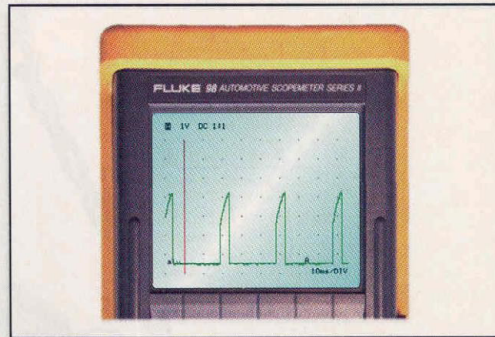
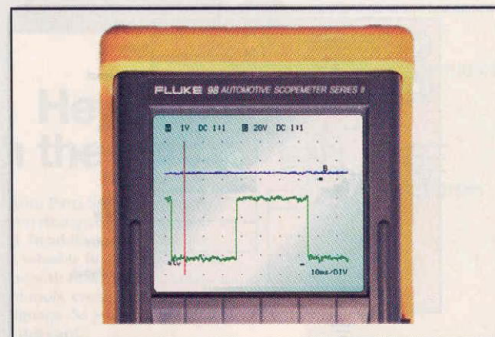
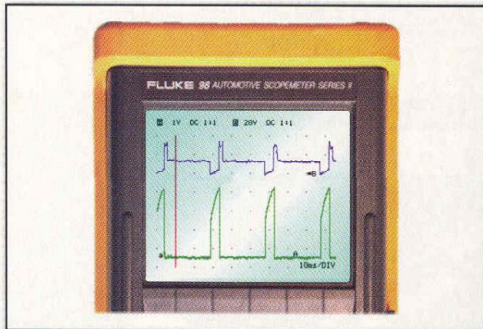
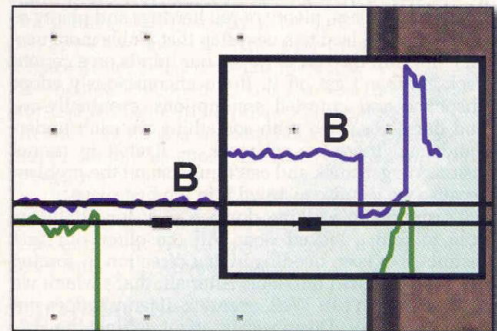

Figure 1: A mystery waveform — does this look like a distributor pulse generator signal?
Figure 2: Channel A is the same distributor output as the engine died. Channel B is attached to the primary negative terminal.
Figure 4: Upward ramping distributor output signal (Channel A) with ignition primary signal (Channel B).
Figure 7: Zoomed-in view of Figure 4.
- The only signal that looked like a pulse generator signal, the one he spoke of on the phone, appears in **Figure 1**.
- The **Figure 1** signal he found changed pattern to the one in **Figure 2** just as the engine lost fuel or spark and died. The B-trace in **Figure 2** is the ignition primary negative terminal.
Our caller began with this diagram and the assumption the distributor had at least one and probably two magnetic pulse generators. The waveform in **Figure 1** looked more like a pulse generator waveform on the scope than anything the other terminals displayed. Aggravating the situation, though, the scope's voltage and time settings make the pulses look narrow and tall. If you combine this with normal diagnostic expectations, the press of time and many other normal shopwork factors, it is easy to see how confusion sets in. Nonetheless, the signal decay pattern was hardly anything we'd expect. Can we solve the engine-dying problem with nothing more than the obviously inadequate technical information the mechanic had on hand, the patterns he saw on his scope and our background knowledge of the electronics probably involved?
Well, suppose this signal is a pulse generator signal. When the car died the pattern turned into what we see in **Figure 2**. Now that is clearly a digital signal. What's going on?
Let's re-start by examining our first assumption — there had to be a pulse generator signal. Put your finger over the top ramping portion of the signal (Figure 1). What do you see? A repetitive digital signal, an on-off, not a jagged sawtooth pattern. Now remove your finger. Add what you now see to what you just saw. It's a repetitive digital signal with an upward ramping top (RDS w/URT).
Now, what do we see in Figure 2, watching the same sensor, the same terminal, just as the engine dies? Great! It's a regular on-off digital signal.
Figure 4 shows what we found. This must be a timing control pulse because these two signals appear to be sharing something. Look back at Figure 2. The scope captured this waveform just as the engine died. The blue signal, the B-trace, is the ignition primary. What changed in our RDS w/URT? It became a RDS with a flat top! Now there should be no doubt about which component generated this signal and the relationships it shares with the rest of the ignition system.
Let's look at **Figure 2** again. What does this signal tell you? The igniter control signal is still there, but we see the primary ignition signal flat-lined. The flat line could be because power to the coil is gone, because the coil is open or because there is an open on the power side of the test point. It could be because the driver is shorting the coil to ground all the time or because there is a short somewhere else. We don't know that in particular, but we know there can't be a spark.
What voltage would the timing control signal be with an open coil? Look again at **Figure 1**, the initial ramp voltage is about 2 volts, and the peak is about 3.75 volts. In **Figure 2**, the peak is steady at 3 volts and the ground is elevated a little. What's more, there's no ramp. Jump over to **Figure 7** and notice that the ignition signal is not down to ground either. Is the smoke about to leak out of these wires? How could you find out? Put a current probe between the transistor and its ground.